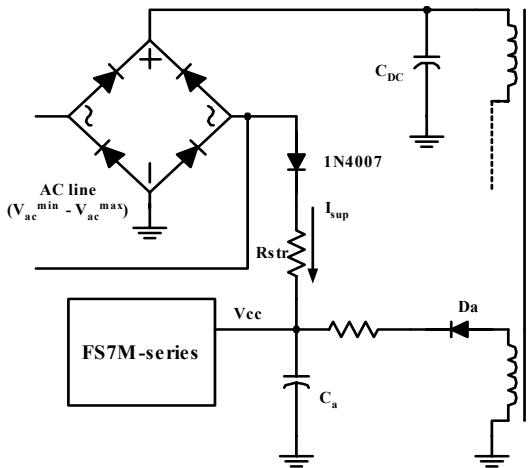
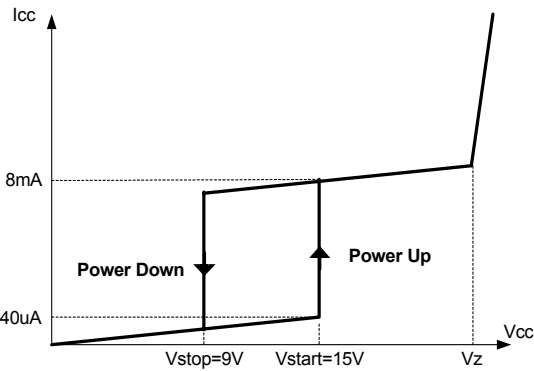

Figure 4. Startup circuit
Figure 5. Relation between operating supply current and Vcc voltage
1. **Startup** : Figure 4 shows the typical startup circuit and transformer auxiliary winding for FS7M-series. Because all the protections are implemented as latch mode, AC startup is typically used to provide a fast reset as shown in Figure 4. Before FPS begins switching operation, only startup current (typically 40uA) is consumed and the current supplied from the AC line charges the external capacitor (C_a) that is connected to the Vcc pin. When Vcc reaches start voltage of 15V (V_{START}), FPS begins switching, and the current consumed by FPS increases to 8mA. Then, FPS continues its normal switching operation and the power required for this device is supplied from the transformer auxiliary winding, unless Vcc drops below the stop voltage of 9V (V_{STOP}). To guarantee the stable operation of the control IC, Vcc has under voltage lockout (UVLO) with 6V hysteresis. Figure 5 shows the relation between the FPS operating supply current and the supply voltage (Vcc).